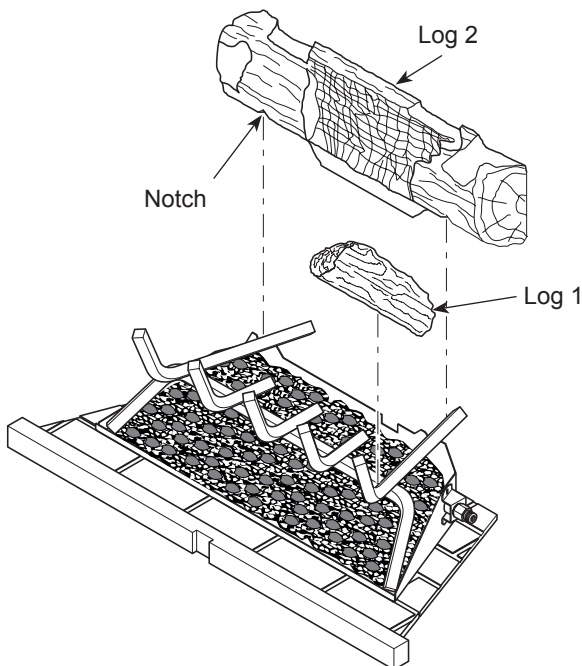

Figure 22 - Installing Logs 1 and 2
1. Place small front right log (log 1) on right front of grate as shown in **Figure 22**.
2. Place large back log (log 2) onto grate making sure notches rest over grate as shown in **Figure 22**.